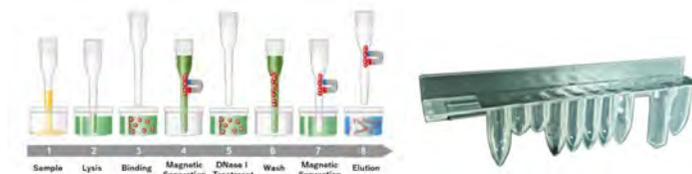

Figure 1-6: RNA extraction principle and ELITE InGenius SP RNA extraction cassette
- The reagent set has been optimized for the isolation of nucleic acids from 0.2 mL samples. (Figure 1-6: ELITE InGenius – SP RNA Extraction cassette and extraction principle).